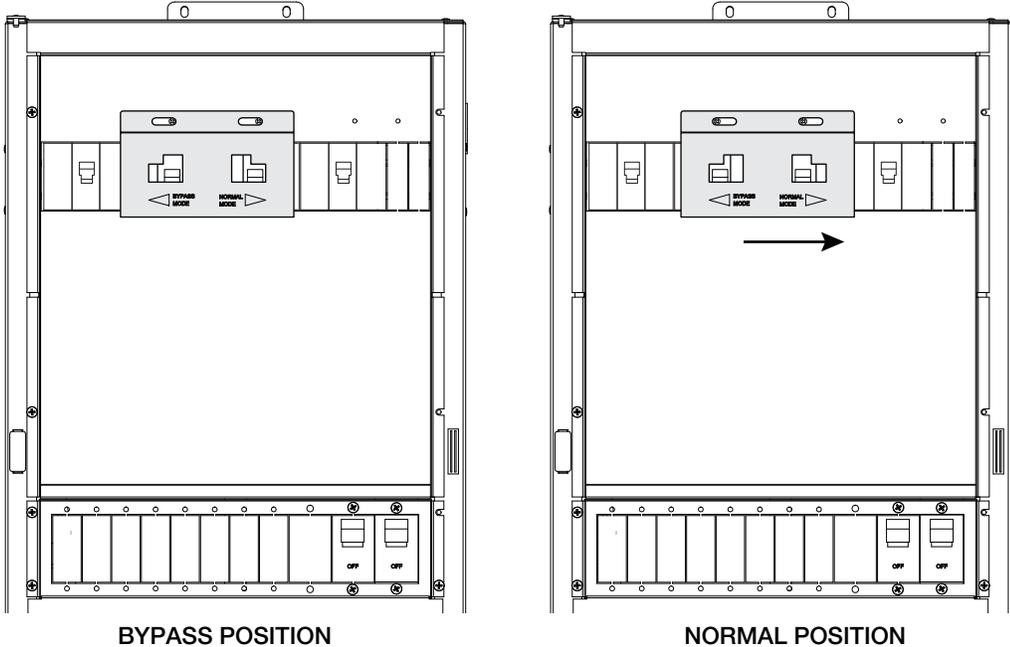

Figure 3-35 Installing the custom designed three-phase bypass interlock plate
- 2. Place the bypass interlock plate over the breakers, as shown in Figure 3-35, and secure it in place with the hardware provided.
- 3. To set it in Normal position, slide the bypass plate to the right, as shown in Figure 3-35.